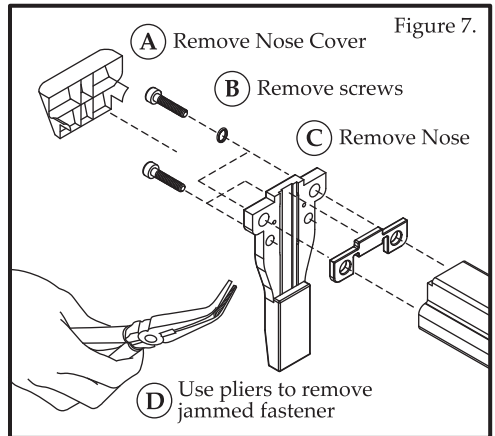

Figure 7.
4. If necessary, remove nose cover, screws from the nose plate and the nose plate itself. Then use long nose pliers to pull the jammed fasteners out. Figure 7.